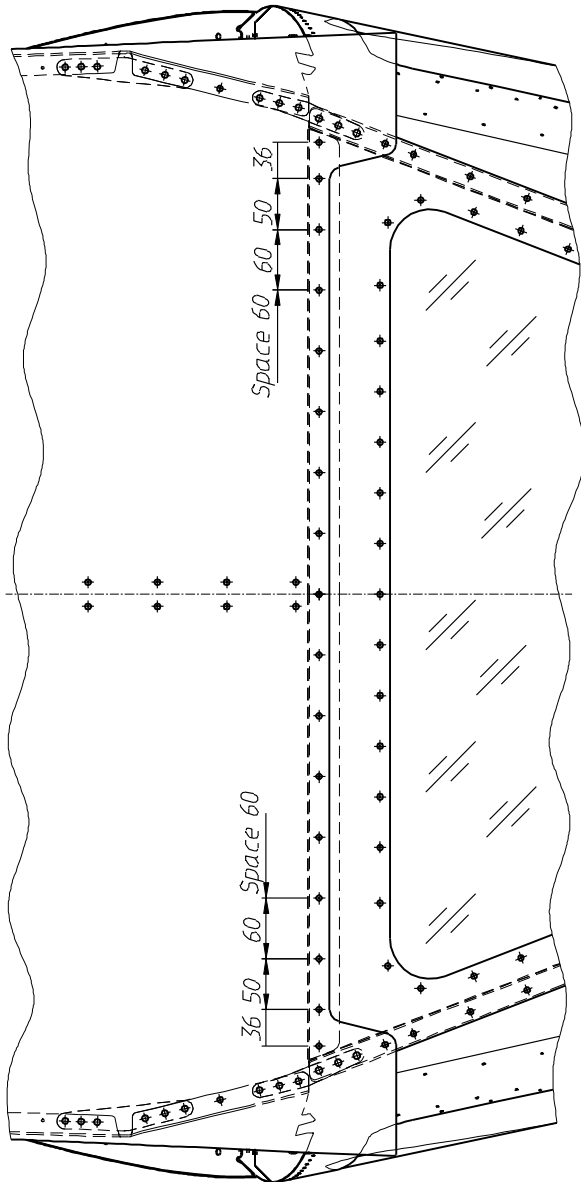

Fig.2
- 3.3) If number of the rivets (intervals between them) are as shown in Fig.2 and the rivets are loosened, this repair work must be accomplished.